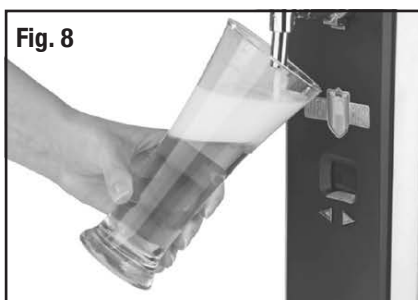

Fig. 8
3. Pull the tap handle towards you at about a 45° angle and keep it there. Let the beer flow down the inside of the glass (Fig. 8).